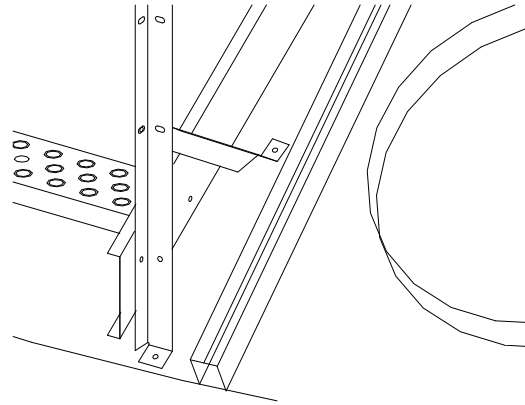

Fig 2
Install the Left Post (MG0001) on to the lowest edge of roof beside roof stair siderail. Plumb post and attach to roof and siderail. Drill a 5/16 hole through the roof sheet attach with 5/16 hardware (A). Drill a 5/16 hole through the post and siderail. Attach with 5/16 hardware (B). Attach Left Knee Brace (MG0005) to Left Post and the roof panel attach with 5/16 hardware (A-B). (Fig 2)